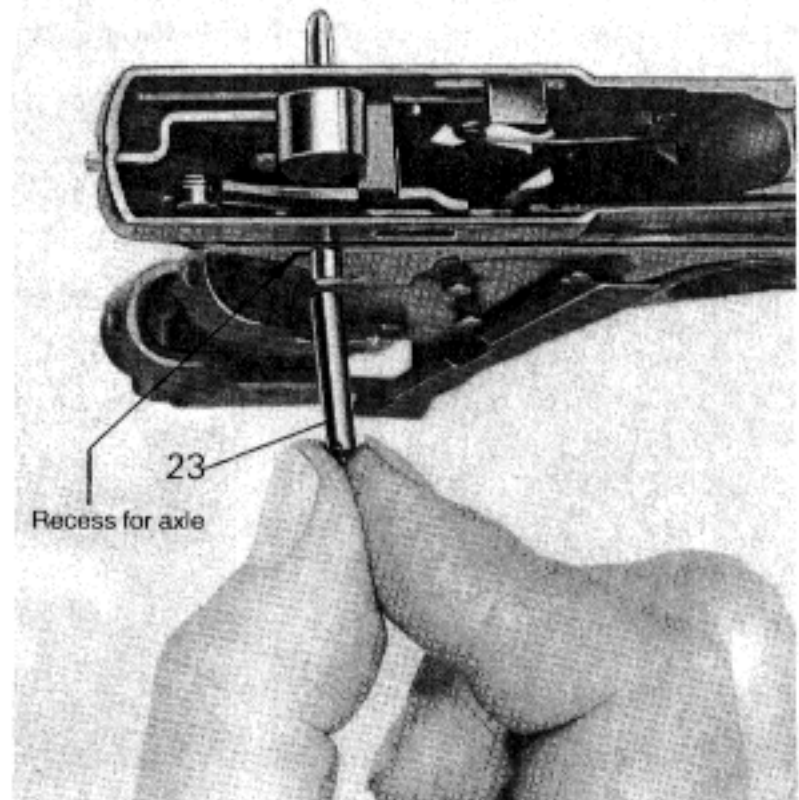

Fig. 45.
- Align the drill holes in the disconnecter and the hammer as well as the recess for the hammer axle (23), and retain in position by inserting assembly pin dia. 3.85 x 35 from the right-hand side of the receiver.
- Introduce the hammer axle from the right, taking care that the projection on the axle engages in the recess provided for it in the receiver (Fig. 45).